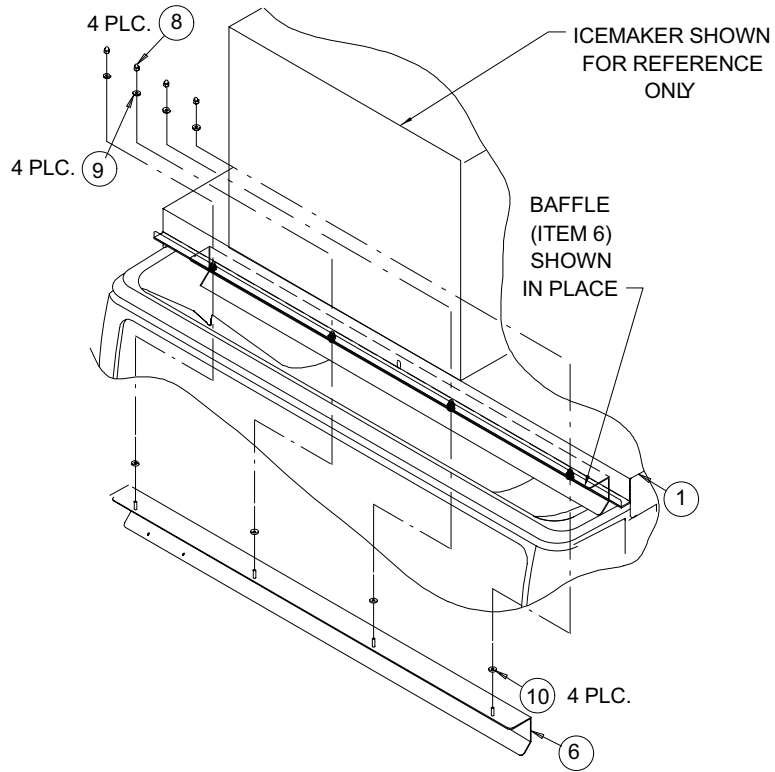

FIGURE 2. ED/DF300 Kit
WARNING: The dispenser must be secured with 3/8-16 bolts (6) to the counter before installing this Icemaker Adapter Kit. Refer to the installation manual and Figure 2 for the counter mounting template.
2. Remove the two (2) screws from each side of the dispenser cabinet and the plastic hopper covers (2) that were shipped with the unit.
3. Place the Adapter lid on the unit and use the four (4) screws that were removed to fasten the lid in place.
4. Install the ice baffle on the lid assembly as shown in Figure 2.